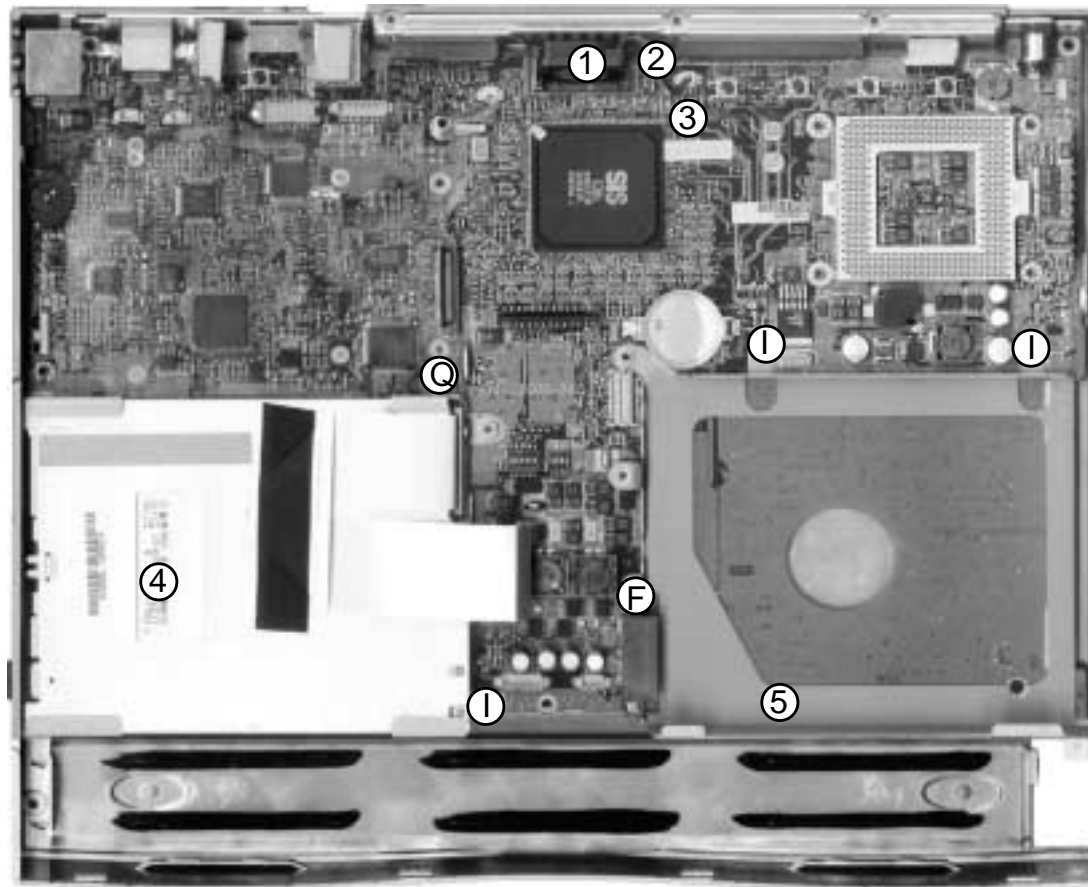

figure 3-19
7. You should be left with figure 3-19 on page 3-13.